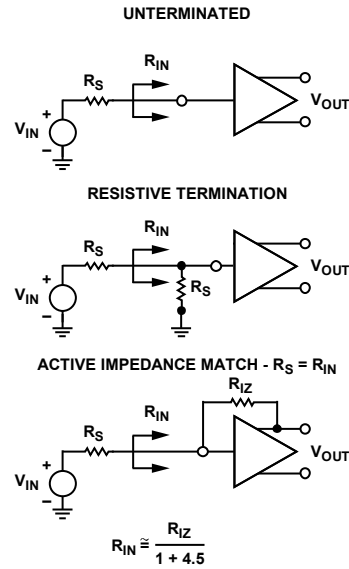
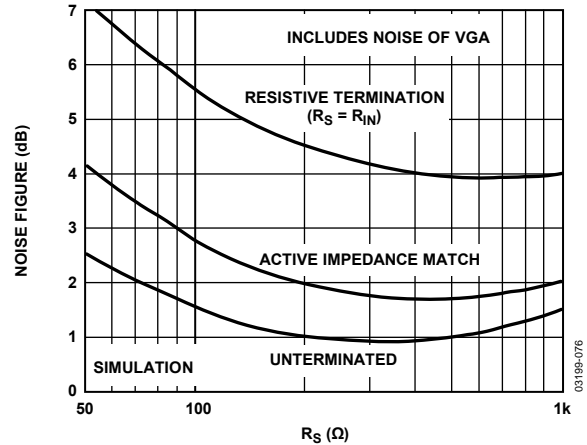
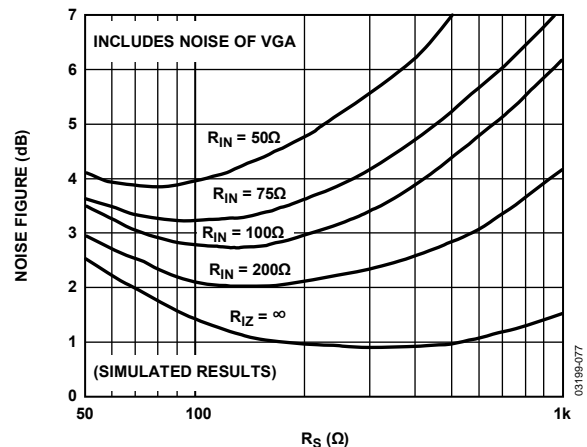

Figure 75. Input Configurations
Figure 76. Noise Figure vs.  $R_S$  for Resistive, Active Match, and Unterminated Inputs
Figure 77. Noise Figure vs.  $R_S$  for Various Fixed Values of  $R_{IN}$ , Actively Matched
The input-referred voltage noise sets an important limit on system performance. The short-circuit input voltage noise of the LNA is  $0.74\text{ nV}/\sqrt{\text{Hz}}$  or  $0.82\text{ nV}/\sqrt{\text{Hz}}$  (at maximum gain), including the VGA noise. The open circuit, current noise is  $2.5\text{ pA}/\sqrt{\text{Hz}}$ . These measurements, taken without a feedback resistor, provide the basis for calculating the input noise and noise figure performance of the configurations in Figure 75. Figure 76 and Figure 77 show simulations extracted from these results and the  $4.1\text{ dB}$  noise figure (NF) measurement with the input actively matched to a  $50\ \Omega$  source. Unterminated ( $R_{IZ} = \infty$ ) operation exhibits the lowest equivalent input noise and noise figure. Figure 76 shows the noise figure vs. source resistance, rising at low  $R_S$ , where the LNA voltage noise is large compared to the source noise, and again at high  $R_S$  due to current noise. The VGA input-referred voltage noise of  $2.7\text{ nV}/\sqrt{\text{Hz}}$  is included in all of the curves.
The primary purpose of input impedance matching is to improve the system transient response. With resistive termination, the input noise increases due to the thermal noise of the matching resistor and the increased contribution of the LNA input voltage noise generator. With active impedance matching, however, the contributions of both are smaller than they would be for resistive termination by a factor of  $1/(1 + \text{LNA Gain})$ . Figure 76 shows their relative NF performance. In this graph, the input impedance is swept with  $R_S$  to preserve the match at each point. The noise figures for a source impedance of  $50\ \Omega$  are 7.1 dB, 4.1 dB, and 2.5 dB, respectively, for the resistive, active, and unterminated configurations. The noise figures for  $200\ \Omega$  are 4.6 dB, 2.0 dB, and 1.0 dB, respectively.
Figure 77 is a plot of NF vs.  $R_S$  for various values of  $R_{IN}$ , which is helpful for design purposes. The plateau in the NF for actively matched inputs mitigates source impedance variations. For comparison purposes, a preamp with a gain of 19 dB and noise spectral density of  $1.0\ \text{nV}/\sqrt{\text{Hz}}$ , combined with a VGA with  $3.75\ \text{nV}/\sqrt{\text{Hz}}$ , yields a noise figure degradation of approximately 1.5 dB (for most input impedances), significantly worse than the AD8331/AD8332/AD8334 performance.